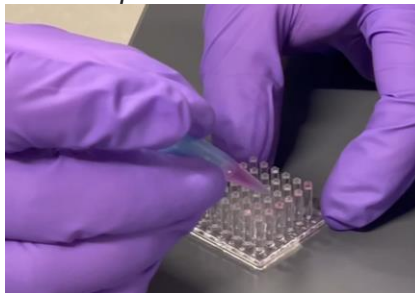

Figure 2. Loading the cell-Matrigel mixture on the pillar plate using a 1 mL pipette tip.
- Gently tap the 1 mL pipette tip with the cell-Matrigel mixture in the center of the pillar to load the cell-Matrigel mixture while blocking the large open area of the tip using the index finger (**Fig. 2**).